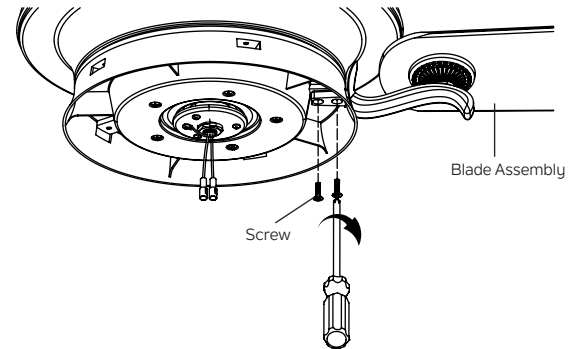

Fig. 21
Step 2. Slide the blade assemblies into the holes on the flywheel and securely tighten the with the screws from the hardware pack as shown. (Fig.21)